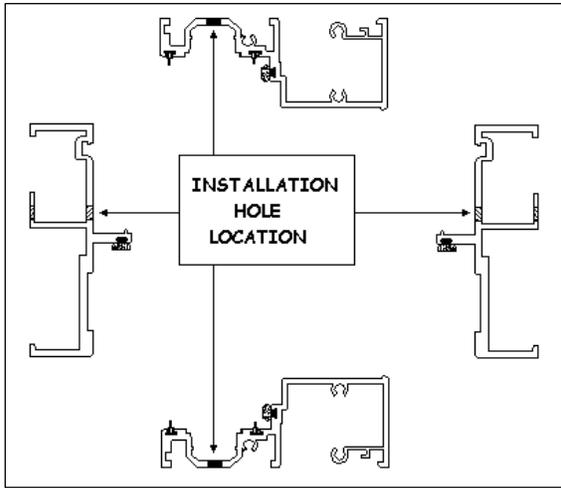
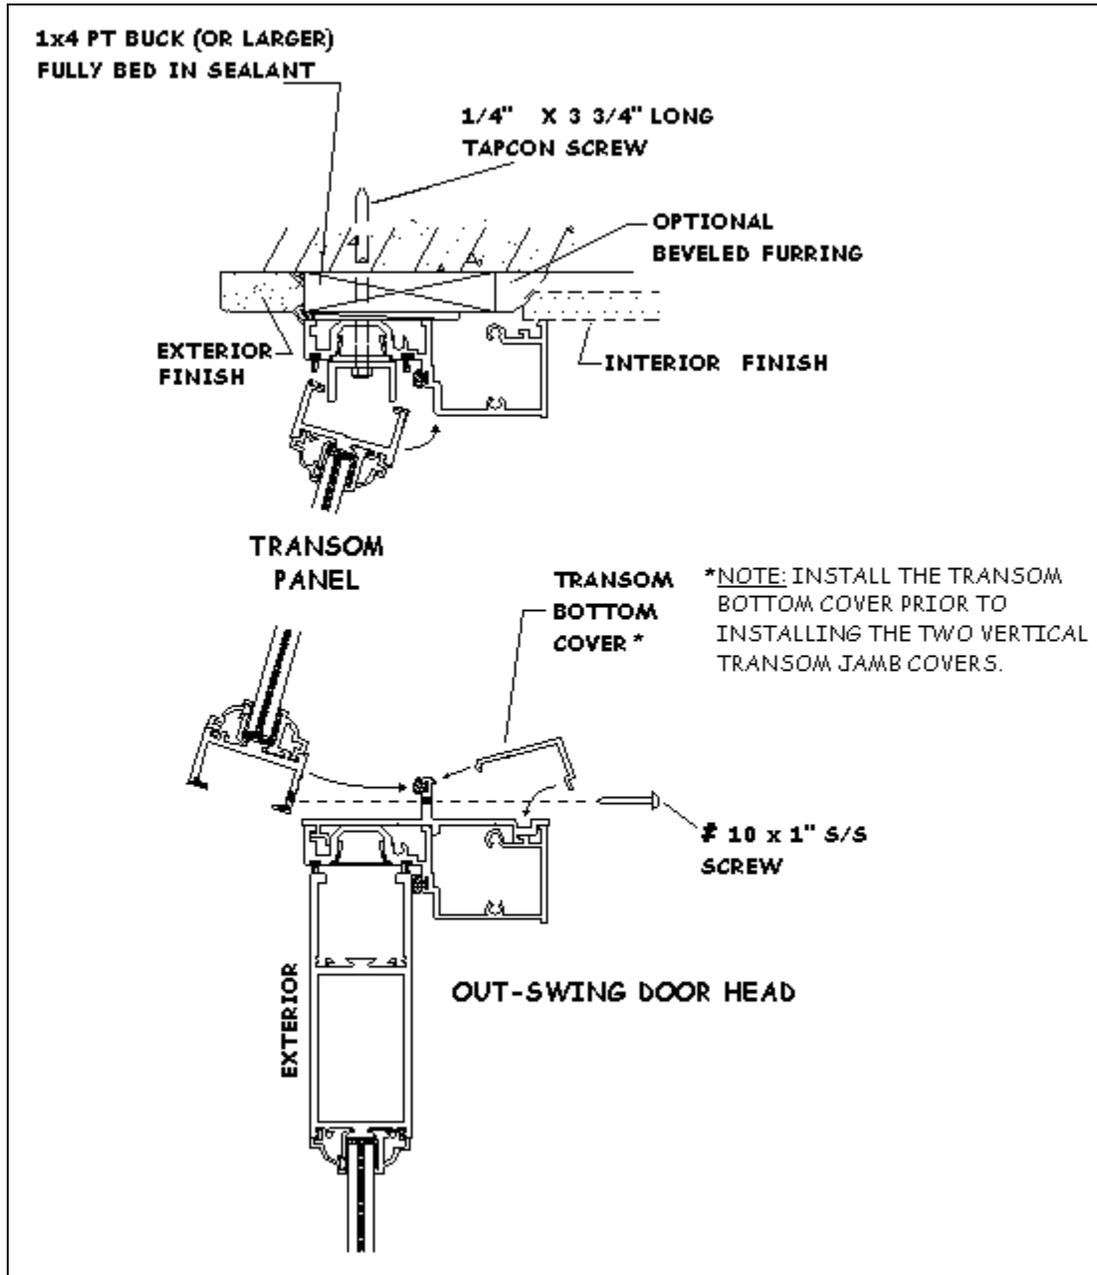

Figure 2: Installation screw holes.
Figure 9: Transom installation into 1 x 4 bucks.
3. Position door frame into opening and shim on all sides as required (note: frames for pairs are reversible, frames for single doors are not). Pre-install frame using installation screws/anchors (not supplied by CGI). Refer to CGI door product approvals for required screws/anchors and possible extra screw/anchors required at Meeting Stiles based on project loads; refer to *figure 2* (and *figure 9* if a transom panel is being used). Make sure to shim frame at all installation screw/anchor points.
9. If this unit has an integral Series 450 transom panel (not a separate transom window such as a Designer Fixed Window), you can install this panel at this stage. Note that installing the transom panel will hide the installation screws at the head (consult with your building inspector). You may decide to hold off on the transom panel installation until the opening has been inspected or you can install this panel now and remove it when inspection is being made. To install the panel, refer to *figure 9*. Panel should be installed from the exterior by inserting top of panel into head channel (pre-installed at CGI) and swing the bottom of the panel towards the frame. The panel should be secured to the transom frame mullion using #10 x 1" stainless steel screws (supplied by CGI).
5. Position door frame into opening and shim on all sides as required (note: frames for pairs are reversible, frames for single doors are not). Pre-install frame using installation screws/anchors (not supplied by CGI). Refer to CGI door product approvals for required screws/anchors and possible extra screw/anchors required at Meeting Stiles based on project loads; refer to *figure 2* (and *figure 9* if a transom panel is being used). Make sure to shim frame at all installation screw/anchor points.
12. If this unit has an integral Series 450 transom panel (not a separate transom window such as a Designer Fixed Window), you can install this panel at this stage. Note that installing the transom panel will hide the installation screws at the head (consult with your building inspector). You may decide to hold off on the transom panel installation until the opening has been inspected or you can install this panel now and remove it when inspection is being made. To install the panel, refer to *figure 9*. Panel should be installed from the exterior by inserting top of panel into head channel (pre-installed at CGI) and swing the bottom of the panel towards the frame. The panel should be secured to the transom frame mullion using #10 x 1" stainless steel screws (supplied by CGI).
until the opening has been inspected or you can install this panel now and remove it when inspection is being made. To install the panel, refer to *figure 9*. Panel should be installed from the exterior by inserting top of panel into head channel (pre-installed at CGI) and swing the bottom of the panel towards the frame. The panel should be secured to the transom frame mullion using #10 x 1" stainless steel screws (supplied by CGI).
11. If this unit has an integral Series 450 transom panel (not a separate transom window such as a Designer Fixed Window), you can install this panel at this stage. Note that installing the transom panel will hide the installation screws at the head (consult with your building inspector). You may decide to hold off on the transom panel installation until the opening has been inspected or you can install this panel now and remove it when inspection is being made. To install the panel, refer to *figure 9*. Panel should be installed from the exterior by inserting top of panel into head channel (pre-installed at CGI) and swing the bottom of the panel towards the frame. The panel should be secured to the transom frame mullion using #10 x 1" stainless steel screws (supplied by CGI).